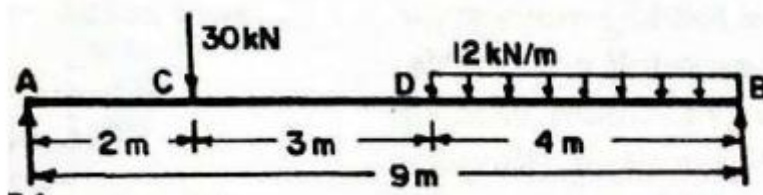

Fig 13.a
13. a A simply supported beam of 9 m span is as shown in fig 13.a given below. Draw the B.M and S.F diagram indicating principal values. L3 3 16